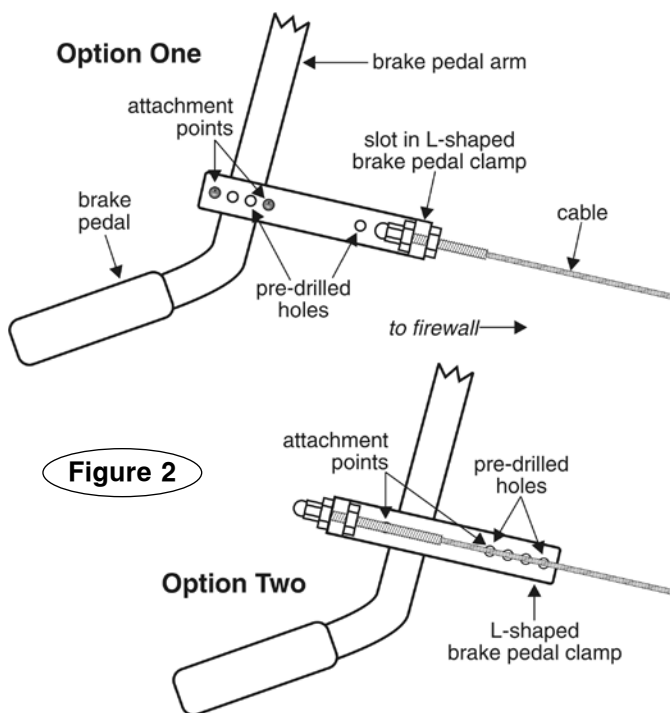

Figure 2
- With the slot in the L-shaped clamp (Figure 2) on either side of the brake pedal arm.
continued from preceding page from it (Figure 2).
- The clamp is attached with bolts through two of the five pre-drilled holes (Figure 2). You can move the clamp forward or backward on the brake pedal arm by using different attachment holes.
3. Based on where the cable will be anchored, determine if the clamp should be rotated with the slot toward the firewall or away from it. See “Option One” and “Option Two” in Figure 2.
1. Now that you know where all the cable components go, position the two sections of the brake pedal clamp opposite each other. Using the two attachment points (Figure 2) closest to the brake pedal arm, attach the clamp with the two 10-24 x 1½" Allen head bolts and 10-24 Nylock nuts. Finger-tighten the nuts only; you may have to adjust the clamp later.